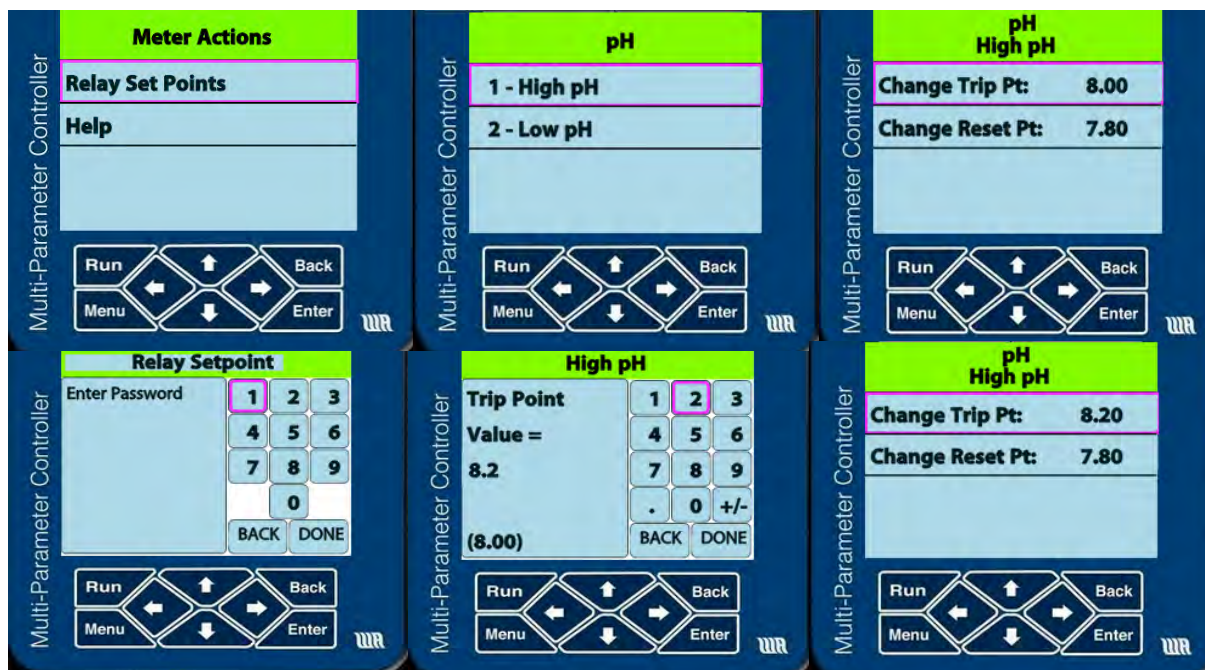

Figure 3-7 – The sequence of screens for changing relay set points from the front panel.
3. The next screen shows the relays that have been set. In Figure 3-7 they are "High pH" and "Low pH." Select the relay you want to modify and click on **Enter**.